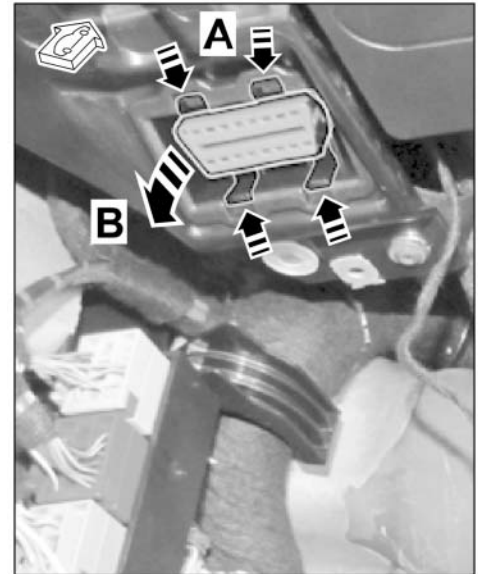

Figure 6
1.7 Remove diagnostic socket (under dashboard ⇒ *Figure 6*).
1.7.1 Press locking lugs (4 x) on diagnostic socket at the same time (⇒ *Figure 6-A*).
1.7.2 Pull diagnostic socket forward out of the dashboard retaining frame and remove it (⇒ *Figure 6-B*).